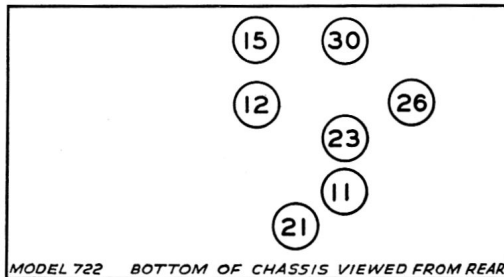

Figure 2—Underside Aligning Positions.
R.F. ALIGNMENT—(See Figure 2—Underside Aligning Positions)—Broadcast Band:—